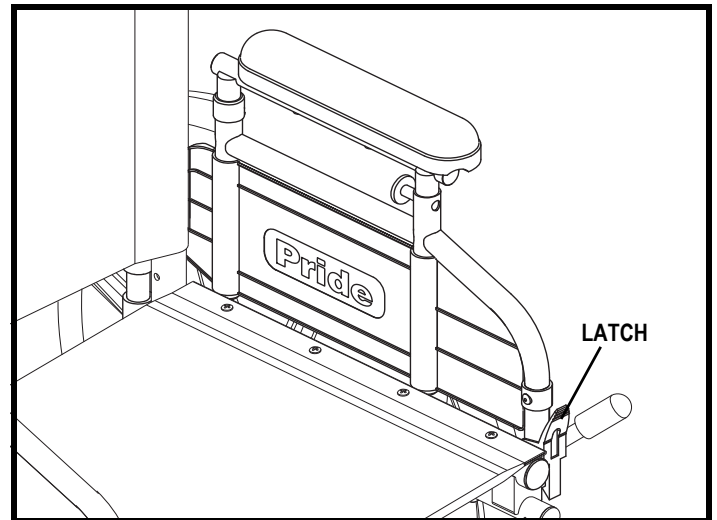

Figure 30. Dual-post Armrest Removal
1. Pull back the armrest latch located on the armrest. See figure 30.